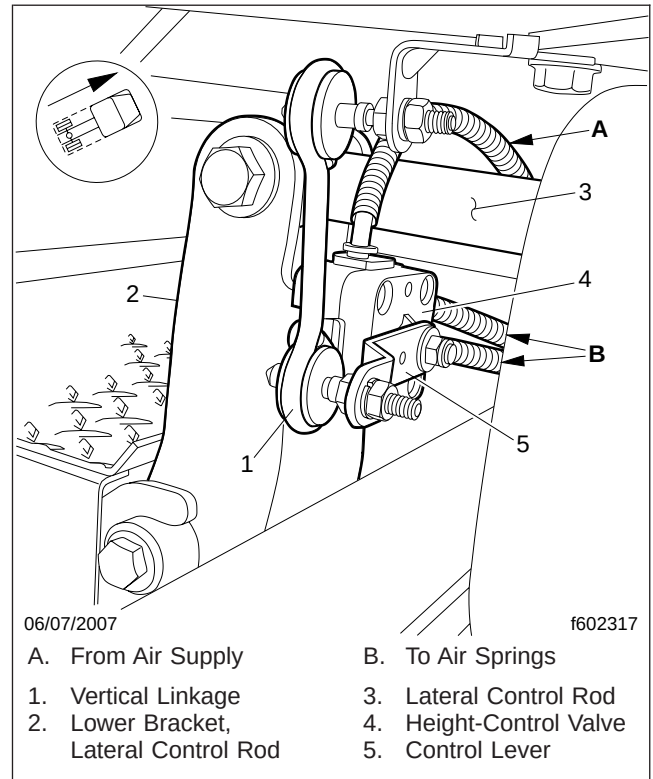

Fig. 1, Cab Height-Control Valve
4. Remove the nut and washer that attaches the vertical linkage to the horizontal control lever. Disconnect the vertical linkage from the control lever; see Fig. 1.